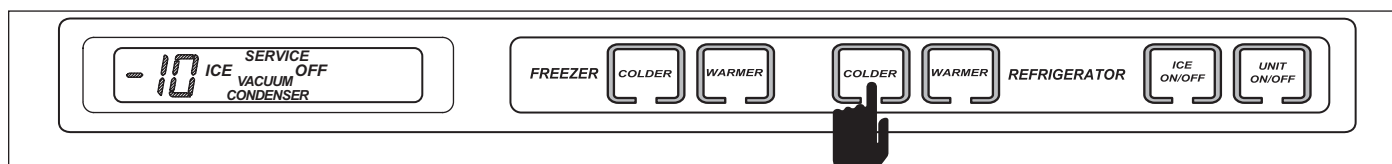

Figure 3-31. Press COLDER Key to Display Temperature Reading
5. Press the COLDER key now to display the third reading, which will be the refrigerator evaporator temperature (See Figure 3-31).
- Press the COLDER key now to display the fourth reading, which will be the freezer evaporator temperature (See Figure 3-31).